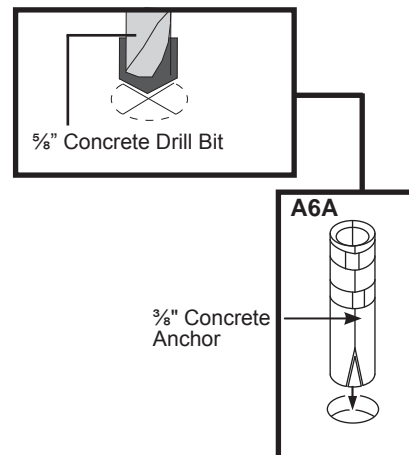

Fig. A6
- Using a 5/8" concrete drill bit, drill an anchor hole 3" in depth (Figure A6). Repeat this step for the remaining mounting holes.